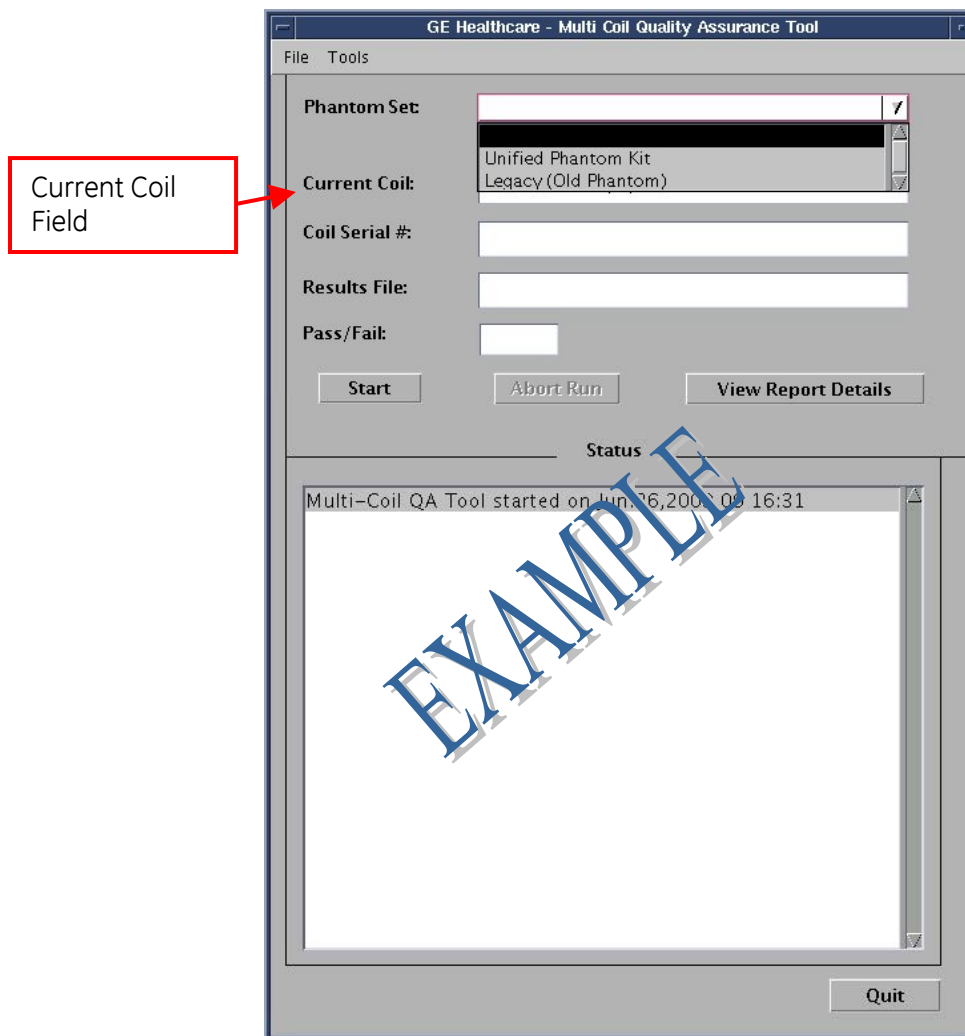

Figure 33: MCQA Tool Dialog box
2. Upon start-up, the coil that is connected to the system gets selected in the *Current coil* field as shown in Figure 33.